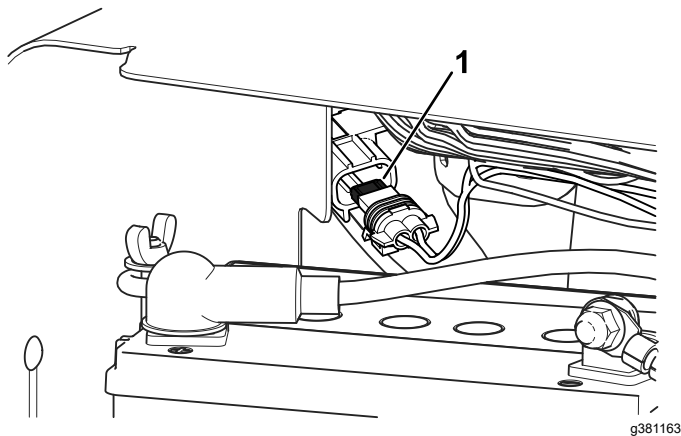

Figure 162
**Note:** The fan fuse is located in-line behind the battery (Figure 162).